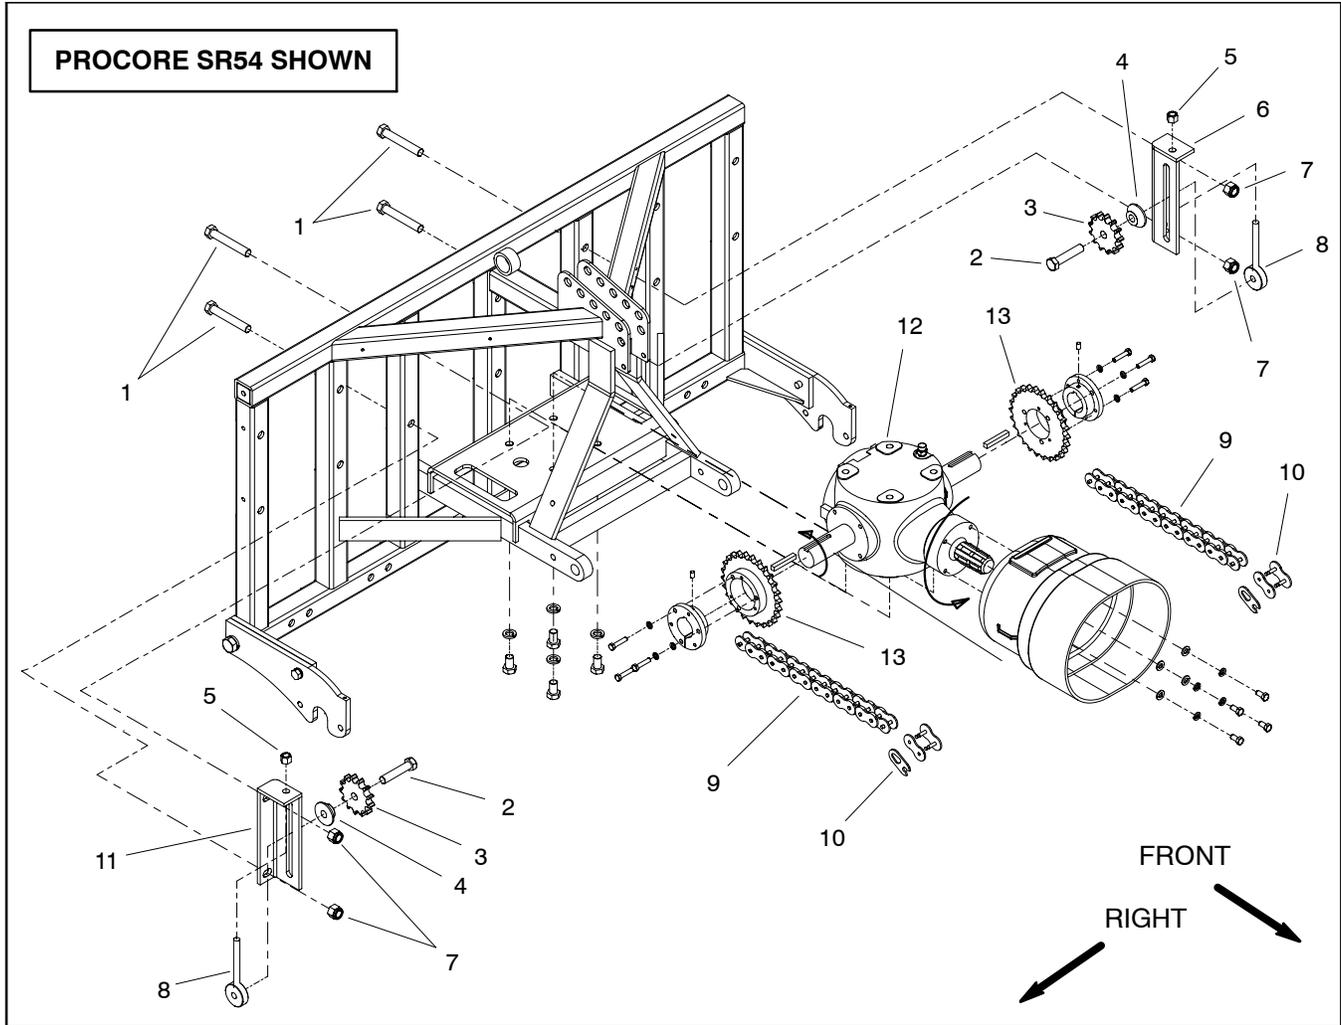

Figure 13
NOTE: The coring head drive chain assemblies for ProCore SR54 and SR70 aerators are very similar. The ProCore SR54 is shown in Figure 13.
Disassembly (Fig. 13)
6. If necessary, remove idler assembly using Figure 13 as a guide.
Assembly (Fig. 13)
3. If idler assembly parts were removed from frame, install idler components using Figure 13 as a guide.